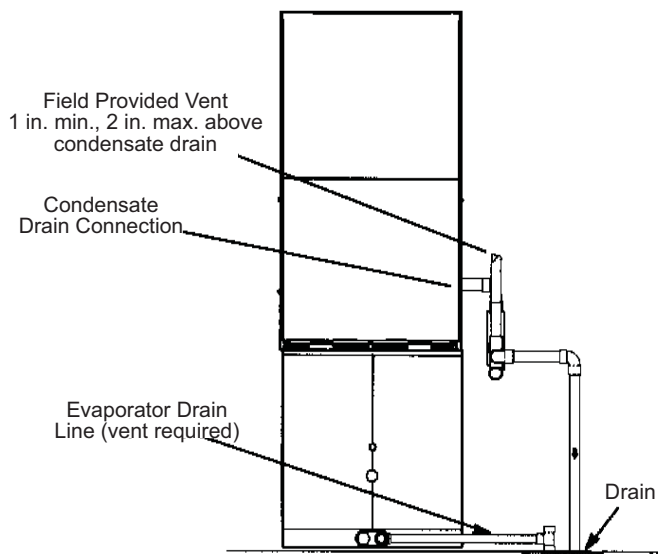
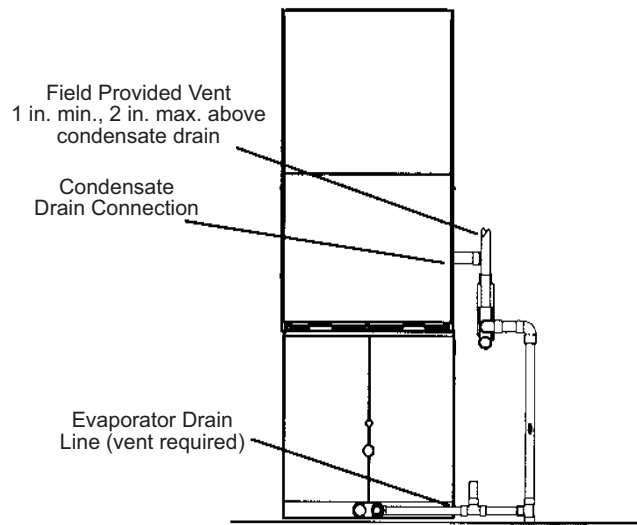

Figure 40. Evaporator Coil Using a Separate Drain
Figure 41. Evaporator Coil Using a Common Drain
5. **Figure 40** shows the furnace and evaporator coil using a separate drain. If necessary, the condensate line from the furnace and evaporator coil can drain together. See **Figure 41**. The field provided vent must be a minimum 1 in. to a maximum 2 in. length above the condensate drain outlet connection.